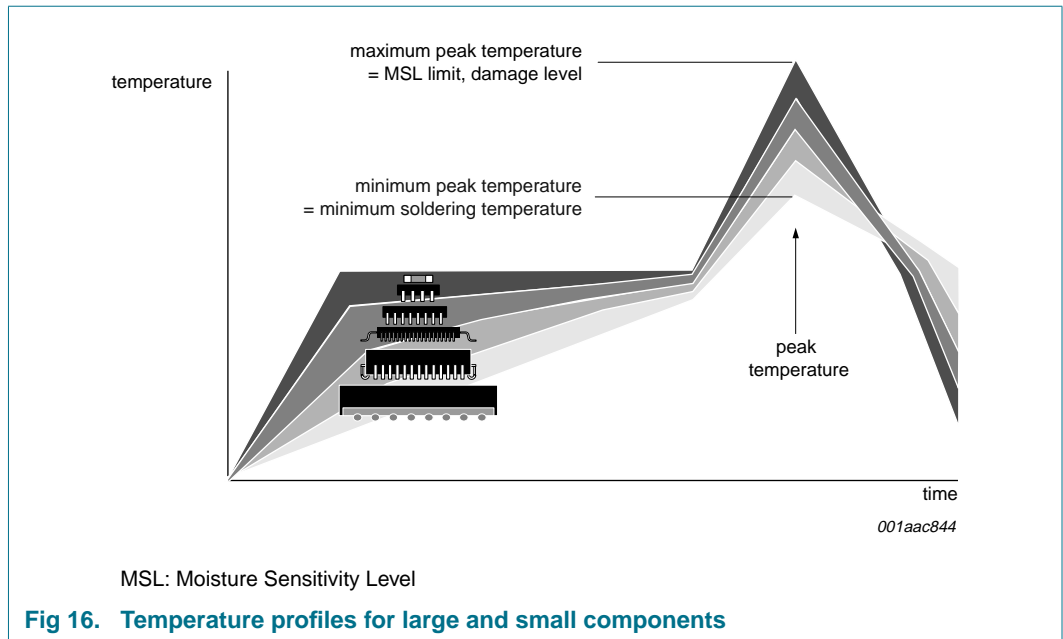

Fig 16. Temperature profiles for large and small components
- Lead-free versus SnPb soldering; note that a lead-free reflow process usually leads to higher minimum peak temperatures (see Figure 16) than a SnPb process, thus reducing the process window
Studies have shown that small packages reach higher temperatures during reflow soldering, see Figure 16.